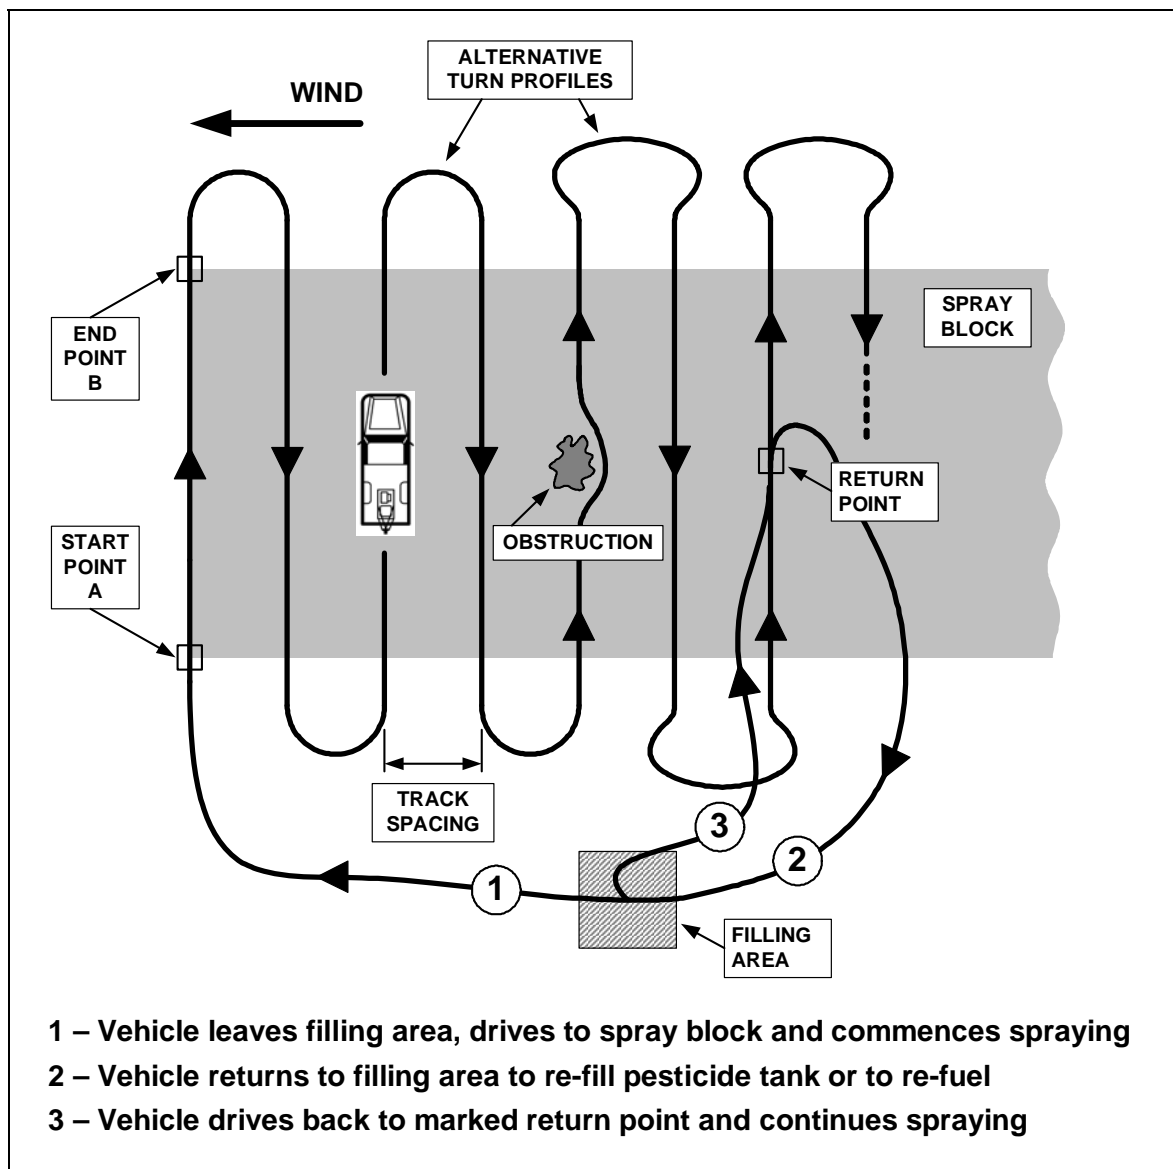

Fig. 7 – Layout of Typical Spray Block
The Spraytrac GPS track guidance system is intended to enable the driver of a spray vehicle to follow parallel tracks in a spray block. The layout of a typical spray block is shown in Fig. 7. The key features are:
The first spray track is defined by a line between a point at the beginning of the block (point A) and a point at the end of the block (point B) – see Fig.7. The procedure to set this track in the Spraytrac unit is as follows:
2. Steer around the obstacle and back onto the original track (as shown on the display as a dashed line) so as to follow a smooth curve as shown in Fig. 7. Do not make any sudden changes in direction and avoid turning through 90° to the original track. A turn through 90° will be interpreted as a turn at the end of the spray block and the track number will increment to the next line.